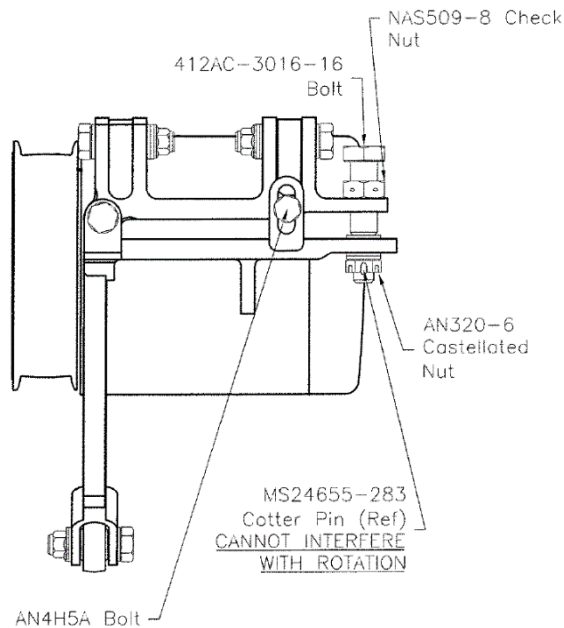

Figure 7-7 – Flat Belt Alignment
- f. To adjust tracking, loosen AN4H5A Bolt. Adjust 412AC-3016-16 Bolt as follows (Figure 7-7):